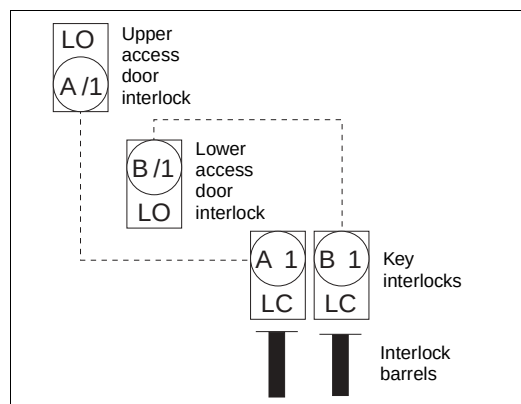

Figure 45: Interlock Status for Accessing Both Bus and Load (Cable) Side (Step 1)
NOTE: If access to both doors are necessary, open both access doors. Both circuit breaker compartment key interlocks need to be locked closed (LC), which will extend both interlock barrels. This will lock the G&T device into connected position, as well as release both keys needed to access the bus and load (cable) side (see Figure 45). If in an upper circuit breaker compartment, access to the bus side is normally through the lower access door. If in a lower circuit breaker compartment, access to the bus side is normally through the upper access door.